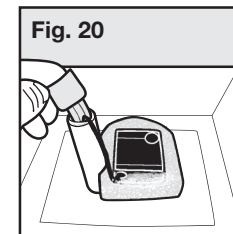

**Fig. 20**
- Remove the extra slack from the electrical power cord and insert the rubber cap into the raised post. Make sure the cord channel on the rubber cap is aligned with the electrical power cord, then insert your finger into the rubber cap and push all the way down (**Fig. 20**).